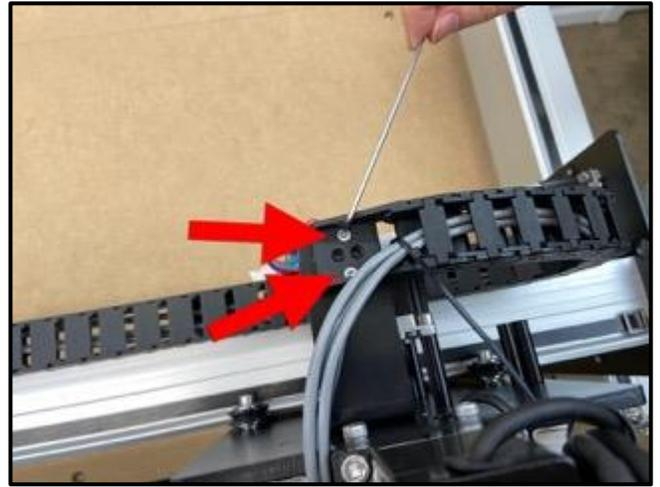

Figure 6-15
1. Reach over the X-rail and lift the X-Axis drag chain. Lay it flat along the length of the X-rail with the head near the Y2-carriage curling upwards. See **Figure 6-15**.
2. Curl the head of the drag chain up and towards the Z-Plus and rest it on top of the X-Axis drag chain head bracket. See **Figure 6-15**.
3. Use the 2mm hex key and two (2) M3x4mm flat head screws to secure the X-Axis drag chain to the head bracket. See **Figure 6-15**.